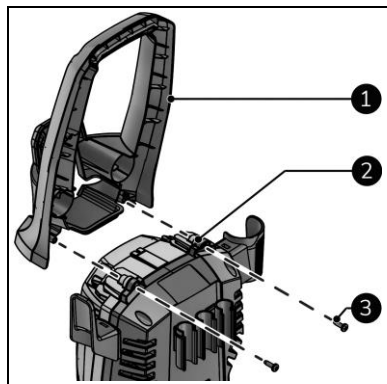

Figure 7
1. Attach the handle (Figure 7, pos. 1) to the main body (Figure 7, pos. 2) with the self-tapping screws (Figure 7, pos. 3).